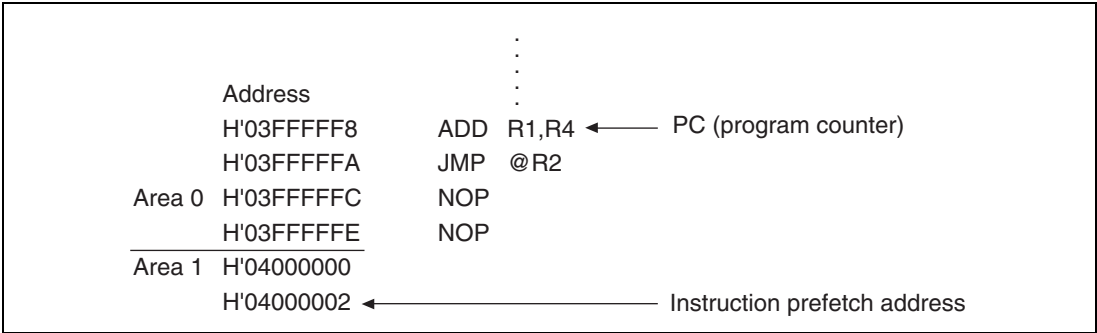

Figure F.1 Instruction Prefetch
Figure F.1 presupposes a case in which the instruction (ADD) indicated by the program counter (PC) and the address H'04000002 instruction prefetch are executed simultaneously. It is also assumed that the program branches to an area other than area 1 after executing the following JMP instruction and delay slot instruction.